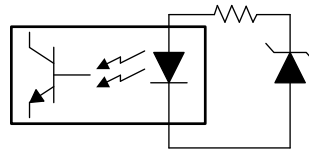

Figure 9. Circuit II to Avoid Optocoupler Saturation
2. Limit the photo diode current using the circuit in Figure 9 to make sure the optocoupler does not draw current higher than IFB. Therefore, the FB pin voltage can be maintained constant. The maximum photo diode current can be derived based on the IFB and selected optocoupler CTR. The Zener diode and the resistor should be sized to limit the photo diode current below the maximum value.